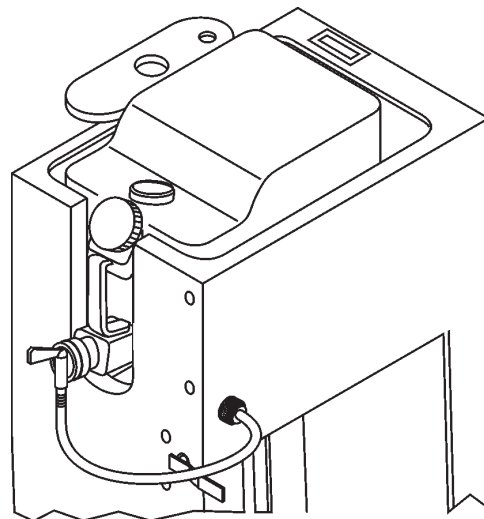

Figure 18. On-board Water Tank Hose Connection
The SP2S13H20A Saw is equipped with a removable 5-gallon on-board water tank fitted in the top of the console which can be connected to the brass hose fitting on the rear of the operators console (Figure 18).
2. For wet cutting operations, ensure the water tank is filled to capacity (5 gallons). Connect the water tank hose to the water system brass fitting on the rear of the console (Figure 18) and test for adequate water flow to the diamond blade before operation.